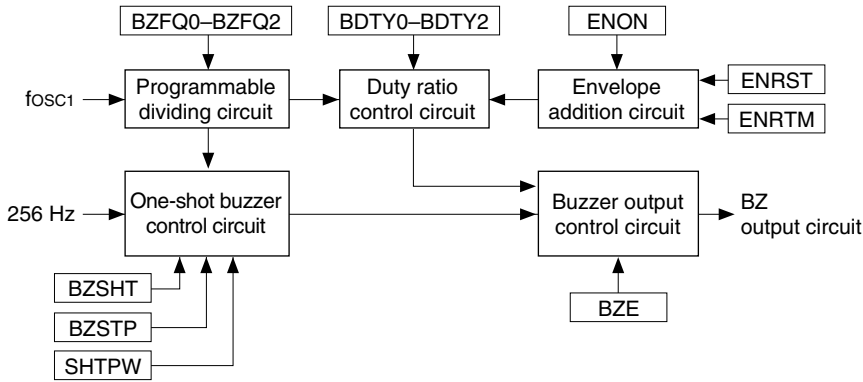

Fig. 4.12.1.1 Configuration of sound generator
The E0C63458 has a built-in sound generator for generating buzzer signals. Hence, generated buzzer signals (BZ) can be output from the BZ terminal. Aside permitting the respective setting of the buzzer signal frequency and sound level to 8 stages, it permits the adding of a digital envelope by means of duty ratio control. It also has a one-shot output function for outputting key operated sounds. Figure 4.12.1.1 shows the configuration of the sound generator.